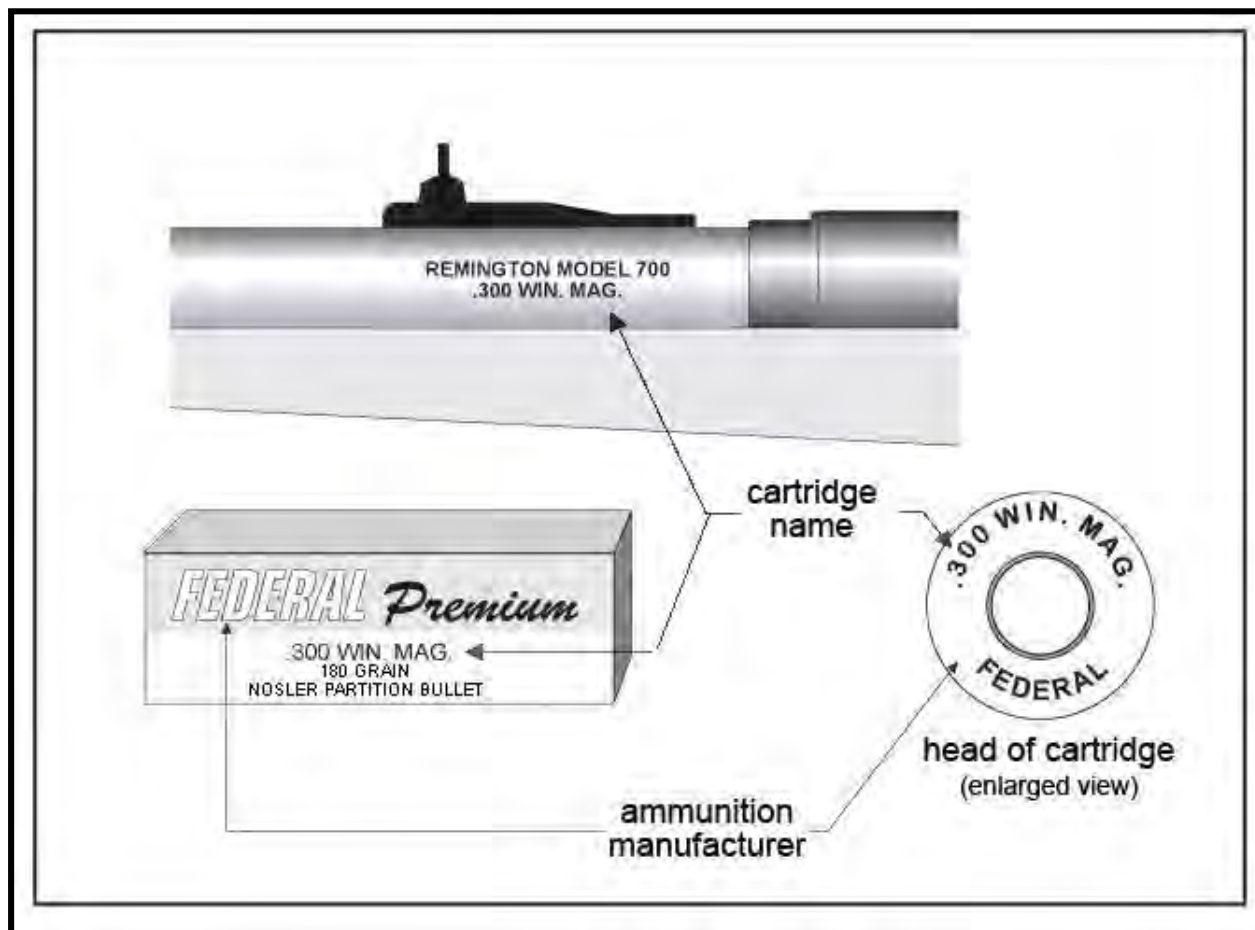

Figure 26. Data Stamp on Rifle Barrel
- a. There are various ways of identifying or “naming” cartridges. Some cartridges have several names. The cartridge name, or an abbreviation of it, is stamped on the head of the case. It is also found printed on the ammunition manufacturer’s box (Figure 26).